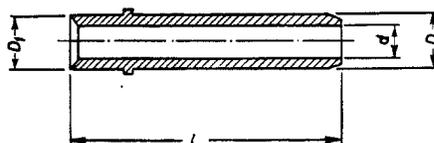

Fig. M 26/00
- Former design with sealing ring or repair design with two oil wiper rings (Fig. M 26/00).
- Later design with bell (Fig. M 26/01).
If single valve guides are to be replaced, install guides of the same design. When exchanging all the valve guides, install guides of the later design depicted in Fig. M 26/01 together with bell-shaped packing (see Fig. M 26 b/02).